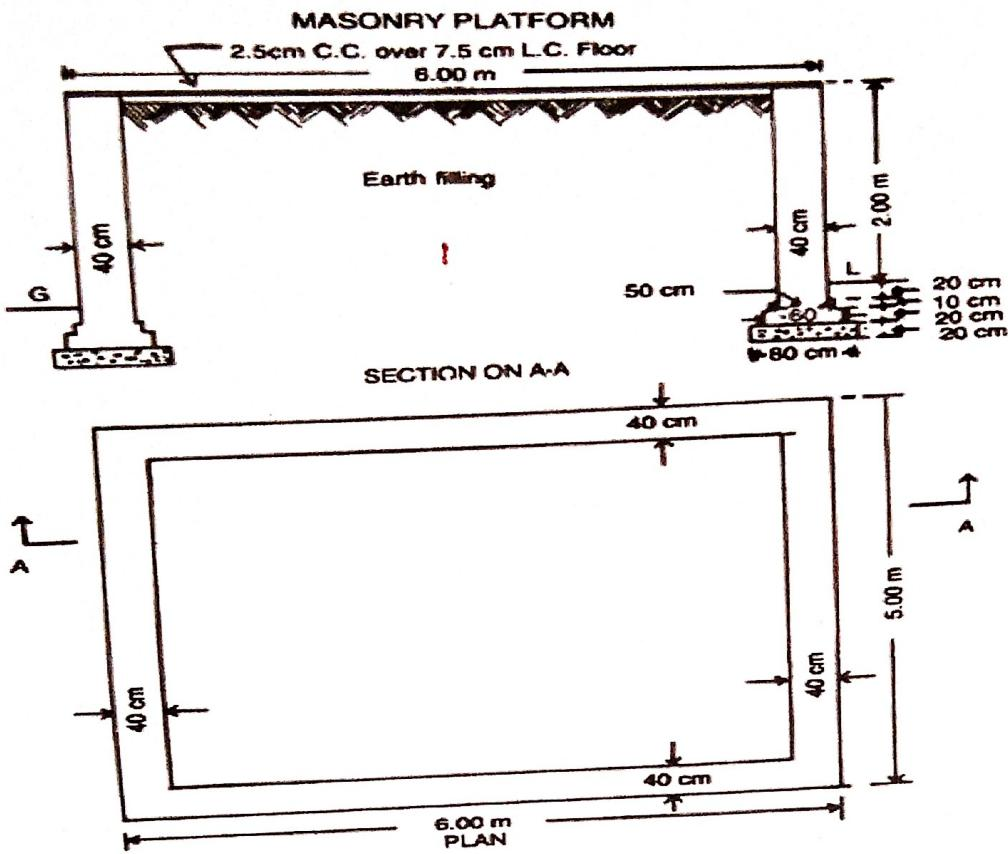

Figure 3
- 4 a Find out quantity of first class brickwork in cement mortar from Figure 3 5